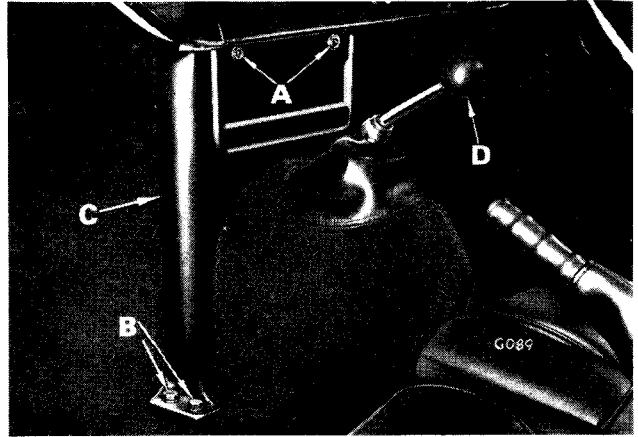

Fig. 3. Facia support bracket attachment
Remove the seats (4 bolts/seat), and facia support bracket (C) by removing the bolts (A) and (B) (Fig. 3).